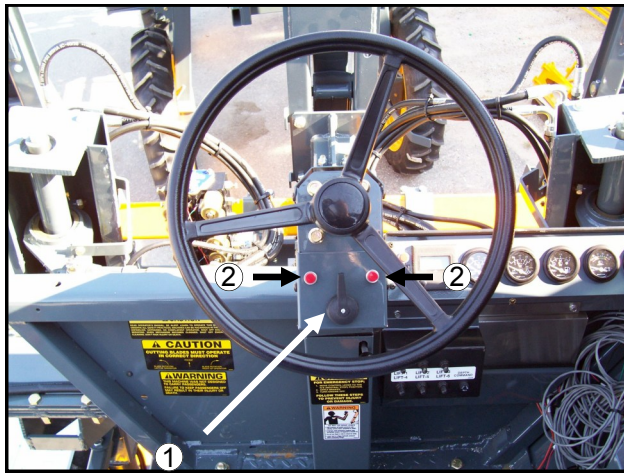
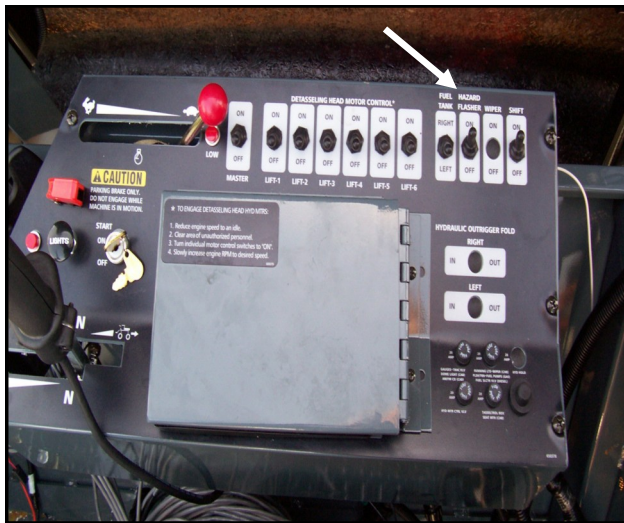
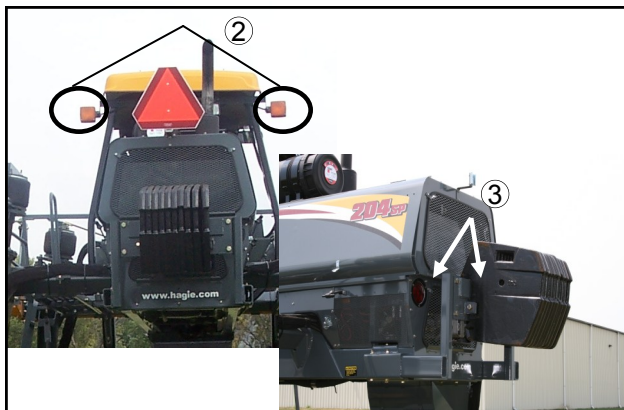

FIG 5.76
FIG 5.77
FIG 5.78
To activate the front (fig. 5.78, item 1 or 2) and rear turning signals (fig. 5.78, item 3) move the turn signal lever (fig. 5.76, item 1) right during a right-hand turn and left during a left-hand turn. Steering column-mounted turn signal indicators (fig. 5.76, item 2) will correspondingly flash when either side of the turn signals is activated. The turn signal lever is not a self-centering switch; you must return it to the “OFF” position by hand after completing your turn.
To activate the flashing hazard/warning lights (fig. 5.78, item 1 or 2) flip the “FLASHER” switch to the “ON” position (fig. 5.77). Activate the hazard/warning lights anytime traveling on a public road, day or night, unless prohibited by law.
Activating any of the work lights will also turn on the “RED” running lights on the rear of the machine (fig. 5.78, item 3).